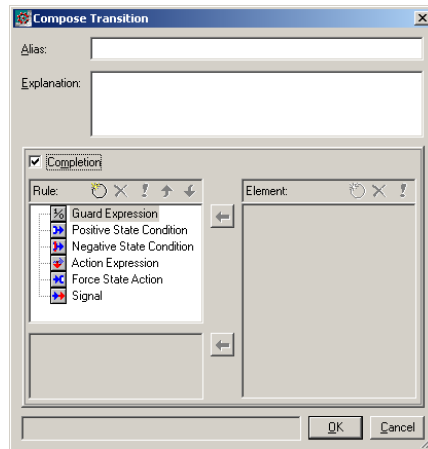

Figure 72: Completion transition selected
- 3 In the Compose Transition dialog box displayed, select Completion. See *Figure 72*, page 87.